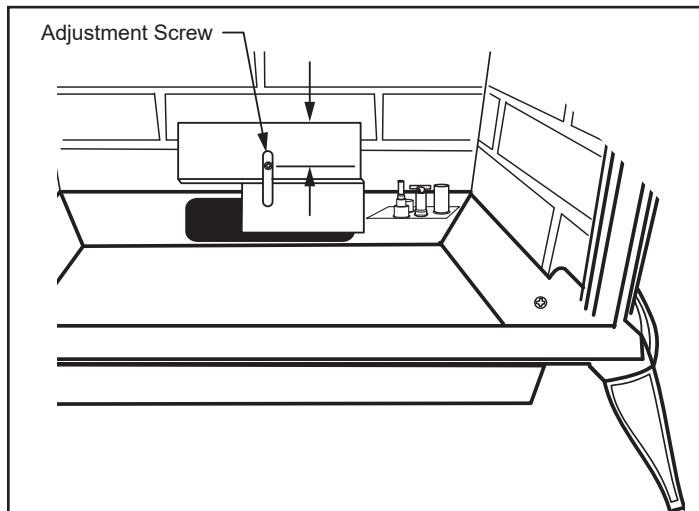

Figure 2.9 - Loosen screw to adjust restrictor plate.
The Oxford stove is shipped with a restrictor plate in the Parts Bag. Adjustments can be made by loosening the adjustment screw to allow the restrictor plate to slide up or down. (Figure 2.9) A guide for usage is shown in Figure 2.10.
- Install restrictor plate as shown in Figure 2.9 with cut out on left side. Secure with adjustment screw.
- Measure from center of screw to top edge of diverter (Figure 2.9) to adjust plate according to guidelines in Figure 2.10.